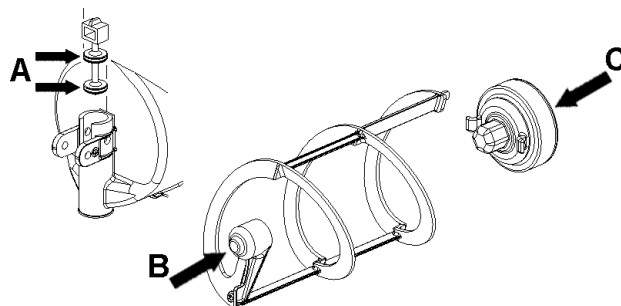

figure 12
- 2 Lubricate faucet piston, outer spiral and outside magnetic rotor (see points A, B and C of figure 12) only with the grease supplied by the manufacturer or other food grade approved lubricant.